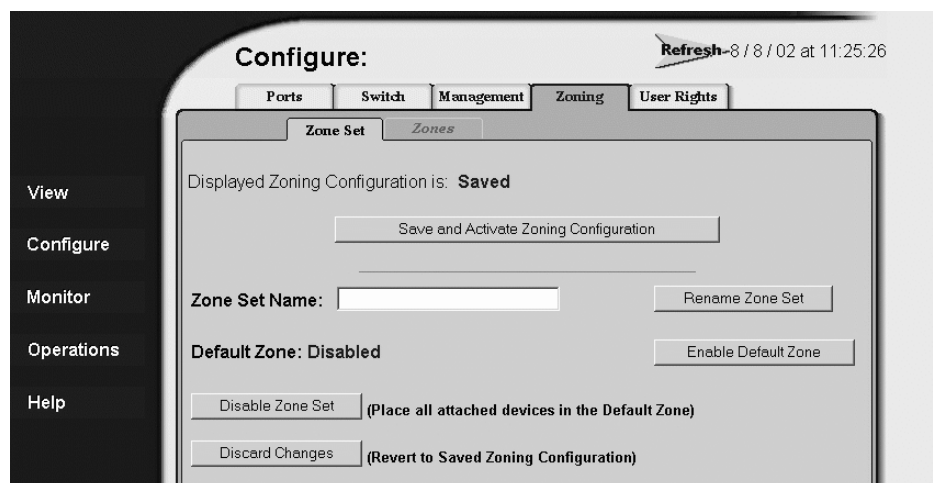

Figure 22: Zone Set tab view
2. Choose the **Zoning** tab and the **Zone Set** tab. The **Zone Set** tab view displays (Figure 22).